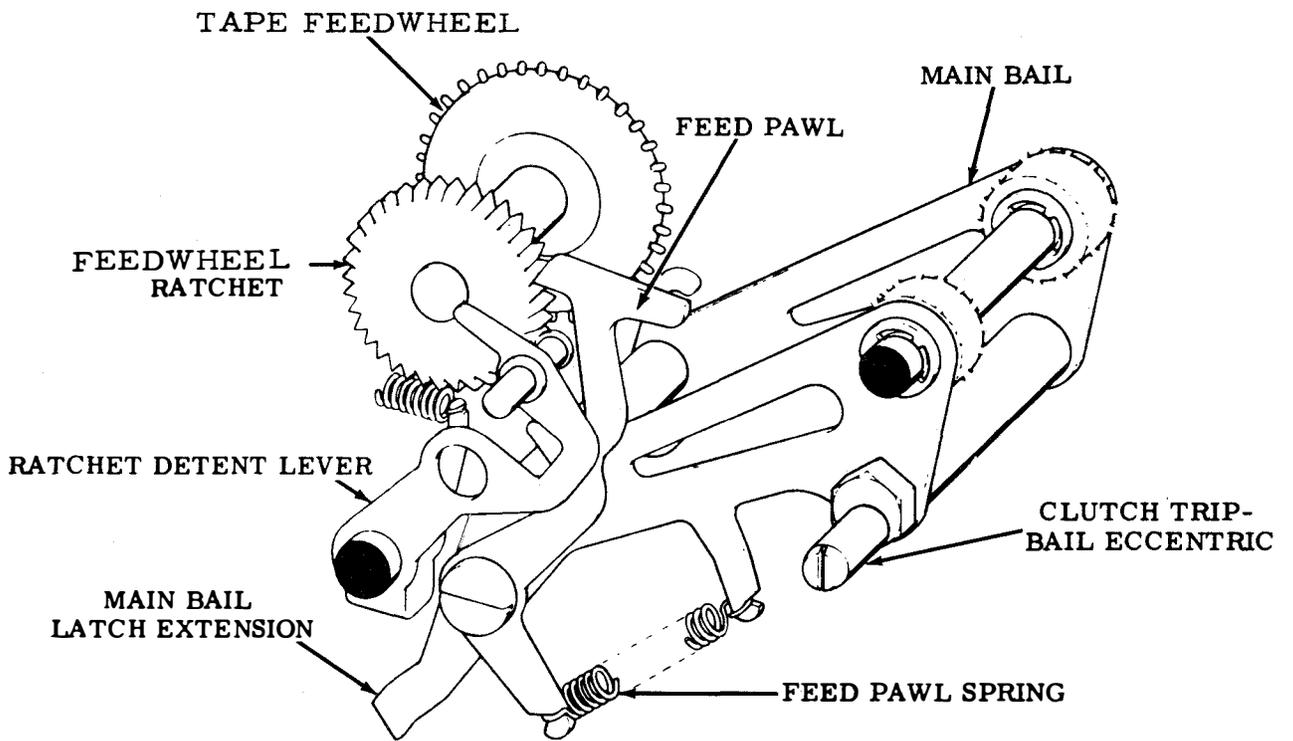

Figure 3-10. Tape Feed Mechanism - Rear View
(2) First, the main bail raises the feed pawl (figure 3-10) one tooth on the feedwheel ratchet. Secondly, the main bail permits the sensing pins to rise to read the perforations in the tape. If any of the sensing pins sense a perforation in the tape they extend upward through the perforations until stopped by the spacer on the main bail, and in extending upward rotate their associated transfer levers up.
(3) In rotating upward, the transfer lever extensions are brought above the line of action of the blade on the locking bail. If any of the sensing pins do not sense a